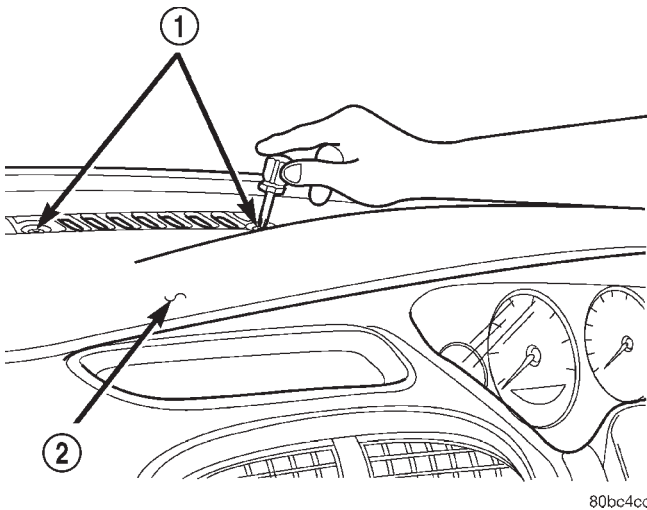

Fig. 9 I. P. Top Cover Center Retaining Screws
- (5) Loosen the (2) screws retaining the instrument panel top cover. Located in the defroster grille (Fig. 9).